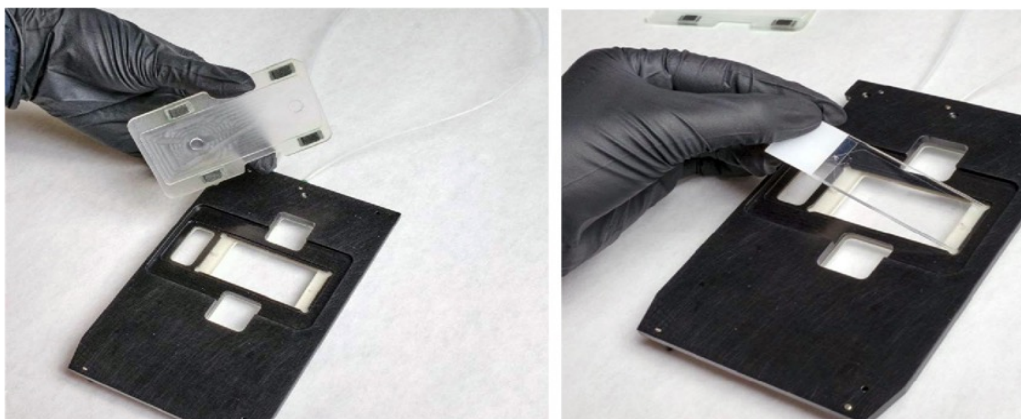

Figure 3.19. Carrier as the Magnetic Slide Retainer is being removed (left). Carrier being loaded with a Flow Cell Slide (right).
6. Place the Flow Cell slide into the carrier so the slide label is visible through the window. (See Figure 3.19.)
2. Remove the Magnetic Slide Retainer using the finger cutouts. (See Figure 3.19.)